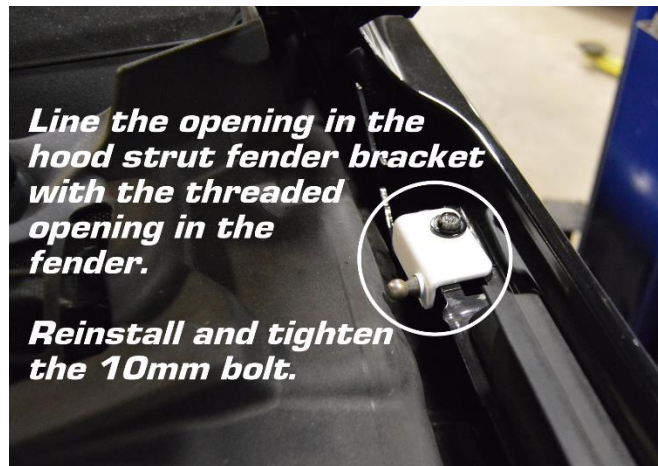

Figure 5
- 5.) Install the LH MRT side fender mounting bracket by lining the bolt hole with the mounting hole in the bracket, and slide the mounting bolt back in place and tighten it down. (fig 5)